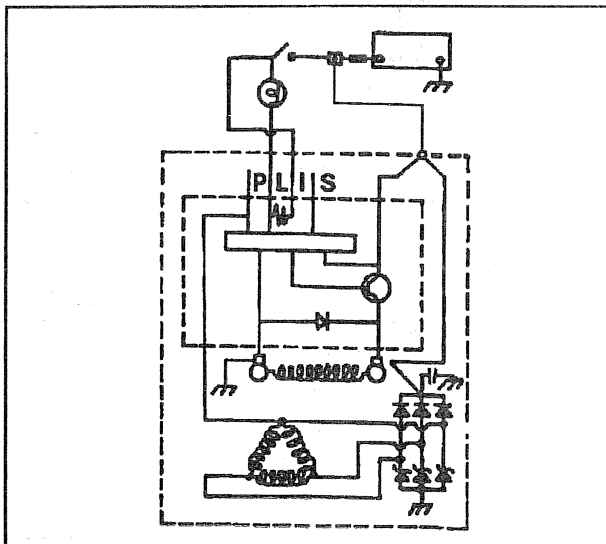

Figure 3—CS-130 Generator Schematic
A basic wiring diagram for the charging system is shown in figure 3. When the system is operating normally, the indicator lamp will turn on when the ignition switch is turned on and turn off when the engine starts. If the lamp operates abnormally or an undercharged or overcharged battery condition occurs, the following procedure may be used to diagnose the charging system. Remember that an undercharged battery is often caused by accessories being left on overnight or by a switch stuck closed that allows a lamp, such as an instrument panel compartment lamp, to stay on.
2. With the ignition switch on and the engine off, the lamp should be on. If not, detach the wiring harness at the generator and use a fused jumper wire (J 36169 or equivalent with a 5-amp fuse) to ground the "L" terminal lead in the wiring harness (figure 3).